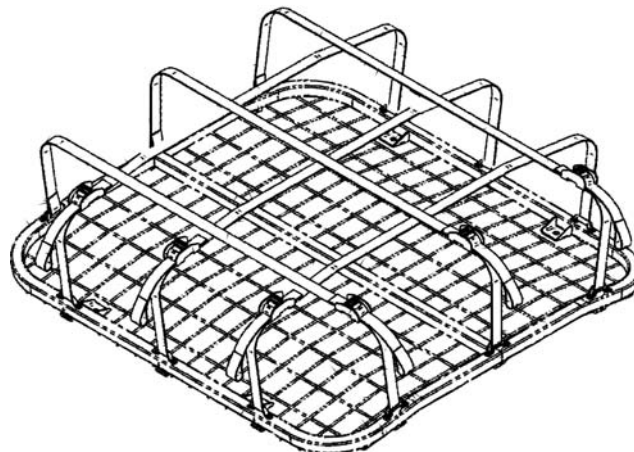

Figure 25 Camouflage Net Stowage Frame
61. The camouflage net stowage frame is mounted on top of the canopy (when fitted) to the upper rollover bars. A strap assembly (Figure 25) is provided to secure the camouflage net.